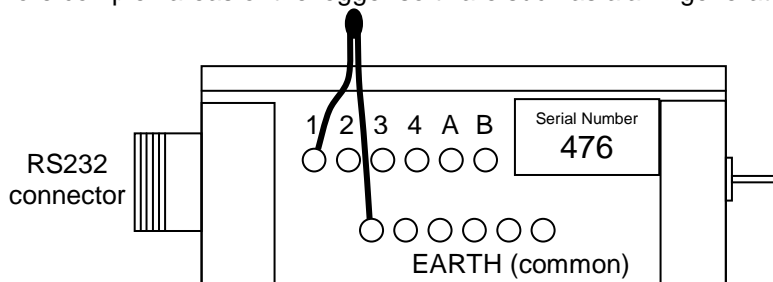

Figure 71: Connecting the sample thermistor.
1. **Connect the transducer.** This example assumes that the thermistor is connected to channel 1. One lead should be attached to channel 1 and the other lead attached to any of the earth terminals (see Figure 71). It does not matter which of the two leads is connected to earth.